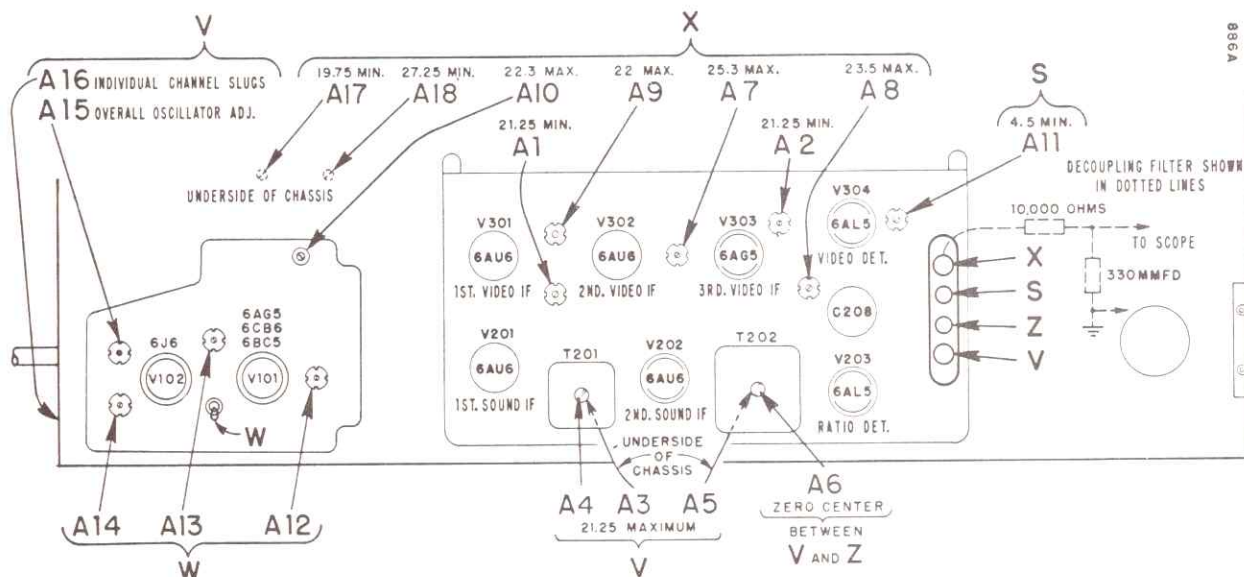

Figure 21. Top View of Chassis Showing Alignment Adjustment Locations.
- b. Connect oscilloscope between test jack "X" and chassis ground through a decoupling filter (figure 21). Keep leads away from receiver.
- Connect oscilloscope between test jack "Z" and chassis ground through a decoupling filter (figure 21). Keep leads away from receiver.
- See Figure 21. Connect VTVM high side to test jack "Z"; common to test jack "V". Use VTVM 3 volt zero center scale if available.
- See figure 21. Connect VTVM high side to test jack "Z"; common to test jack "V". Use VTVM 3 volt zero center scale if available.